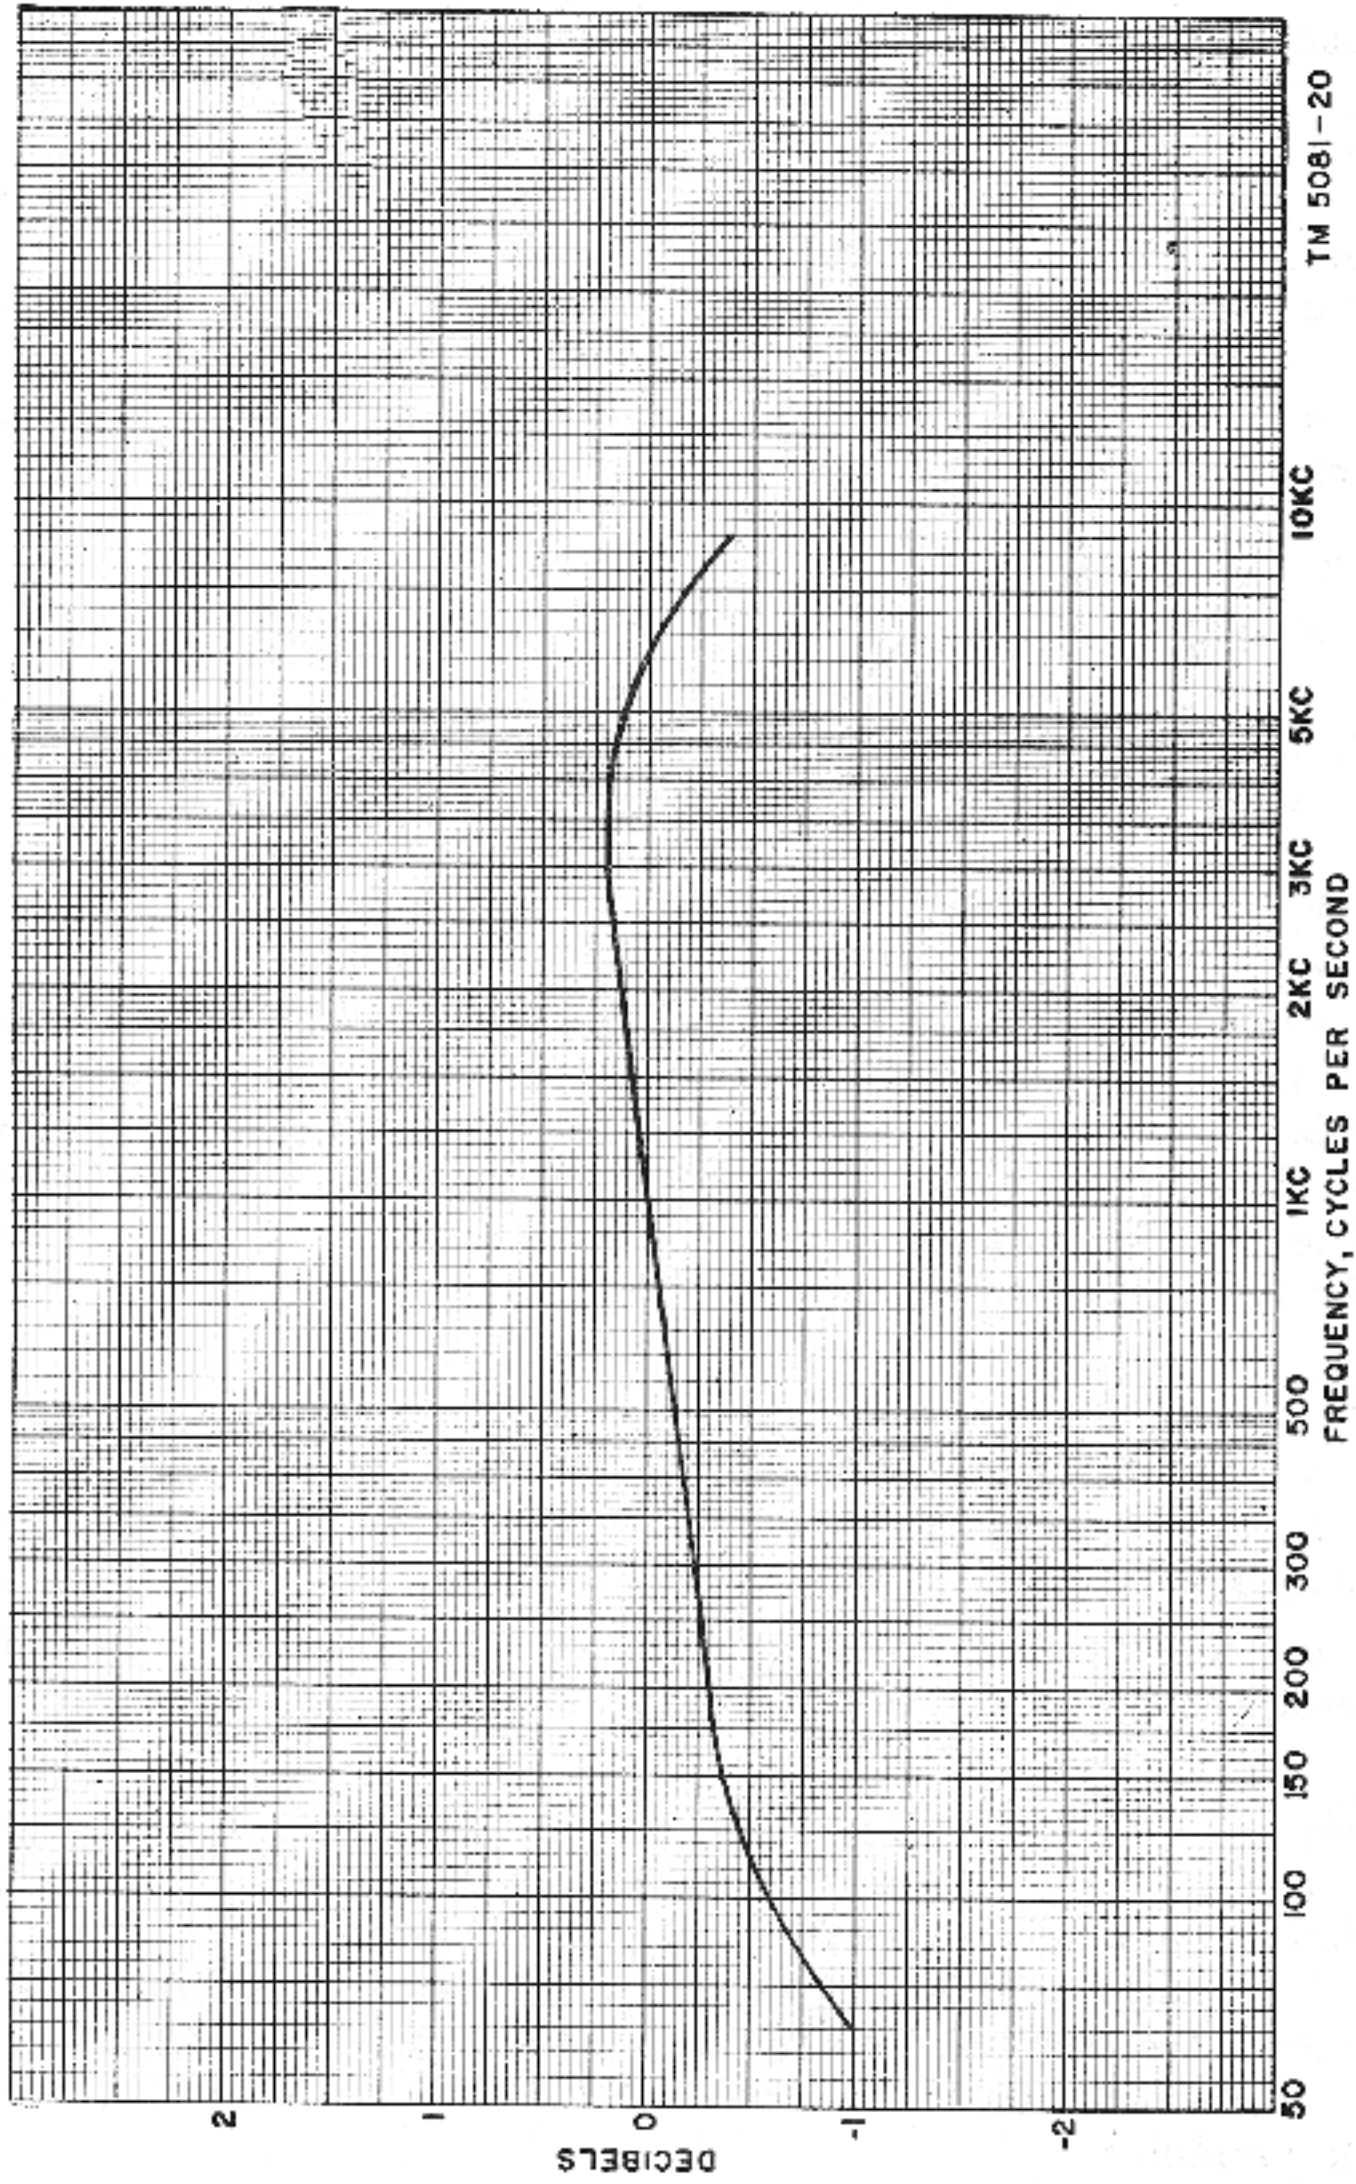

Figure 20. Audio Frequency Amplifier AM-864/U, frequency response curve.
- b. Vary the frequency of the audio oscillator. Take readings of the amplifier output at 100, 500, 1,000, 3,000 and 5,000 cycles. The resulting data should indicate a flat response within ± 1 db of the 1,000-cycle value. See figure 20.